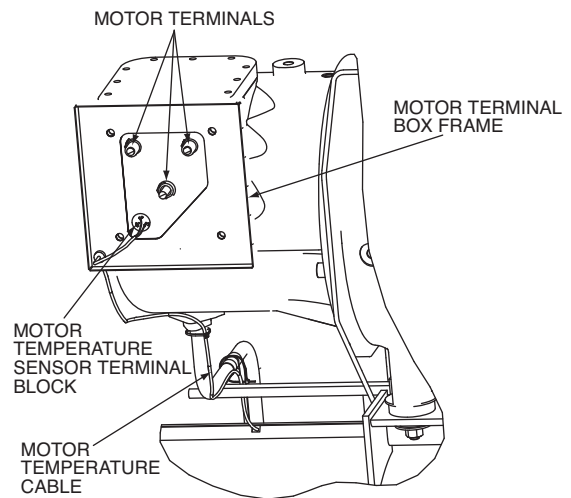

Fig. 24 — Motor Terminals (Units with Q,R Compressors Shown)
5. Disconnect the motor leads from the motor terminals (Fig. 24). Note the position of the motor terminal cable lugs so they can be reinstalled with sufficient clearance away from surrounding structure.
6. Remove the motor temperature sensor leads (Fig. 24), the motor ground lead, and the bolts that secure the VFD enclosure to the terminal box transition piece.